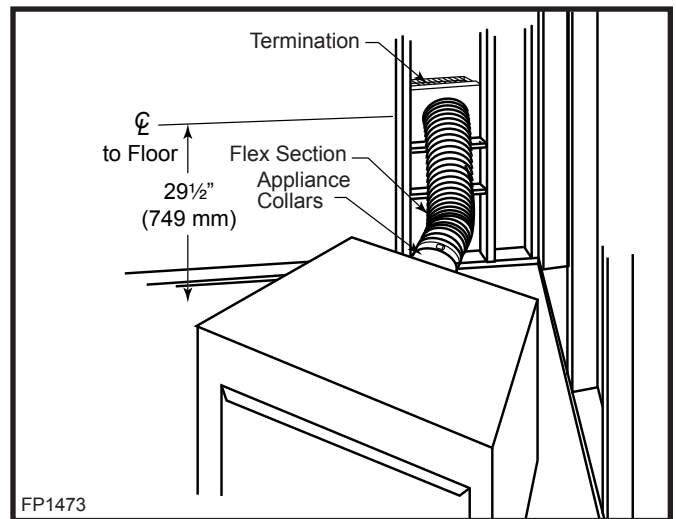

Fig. 20 Grasp the vent pipe close to the collar and bend to 45° angle. Do not exceed 45°.
NOTE: The corner placement dimensions on Page 5, Figure 1 of the manual must be adhered to! Figures 20 & 21 show general installations. Refer to instructions below for a detailed description of installation.
1. Determine where the termination is to be installed. **Locate the center of the hole 29½" (749 mm) off the floor. (Fig. 20)**